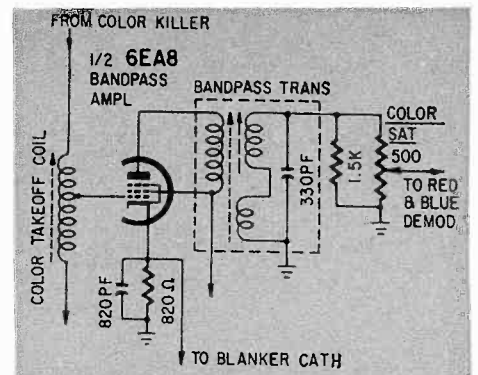

Fig. 7—Bandpass amplifier sounds mysterious, but is no different from typical AM, FM or TV i.f. stage.
**7. Bandpass amplifier** (Fig. 7). Actually, this is hardly worth illustrating. If you've ever seen an i.f. stage in a radio or the sound i.f. in a TV set, you've seen the same circuit. Color signal goes to the grid from the color takeoff coil, and the plate feeds the "bandpass" transformer. This is used to clean up the color signals and keep out interference from other circuits. On the secondary of the transformer is a control usually called *saturation*, but which I think ought to be called a "color volume control," since that's how it works. It simply regulates the amount of color signal.